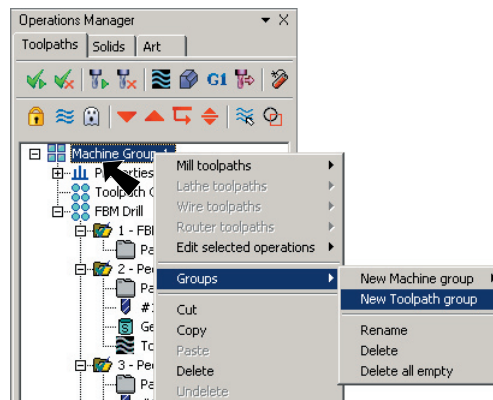

Fig. 15
Step 2. Insert a new **Toolpath group**. To insert group, **right click Machine Group 1** at the very top and click **Groups > New Toolpath group** from the menu, **Fig. 15**.